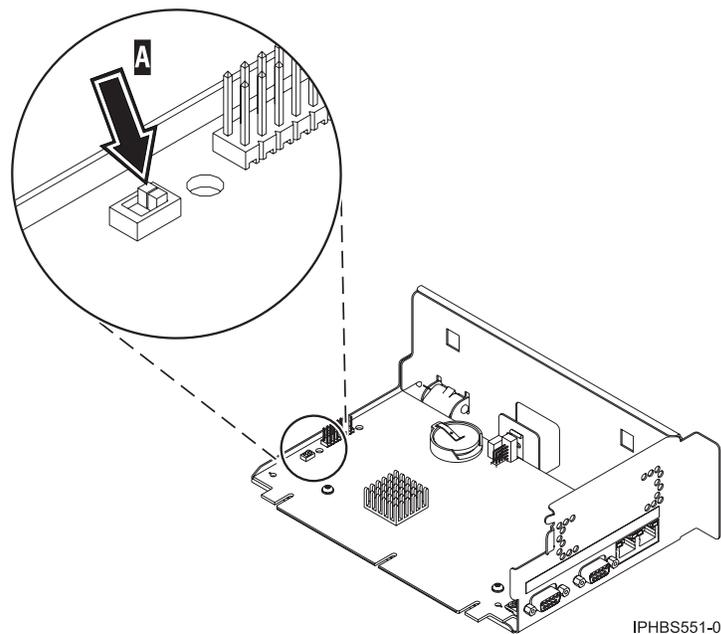

Figure 26. Model 520 service processor switch
5. To reset the service processor assembly, move both service processor reset toggle switches **A** from their current position to the opposite position. See Figure 26.